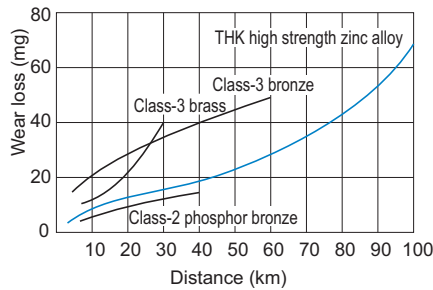

Fig.1 Wear Resistance of the High Strength Zinc Alloy
With a sliding bearing, a pV value, which is the product of the contact surface pressure (p) and the sliding speed (V), is used as a measuring stick to judge whether the assumed model can be used. Use the corresponding pV value indicated in Fig.1 as a guide for selecting a change nut. The pV value varies also according to the lubrication conditions.
Fig.1 pV Value